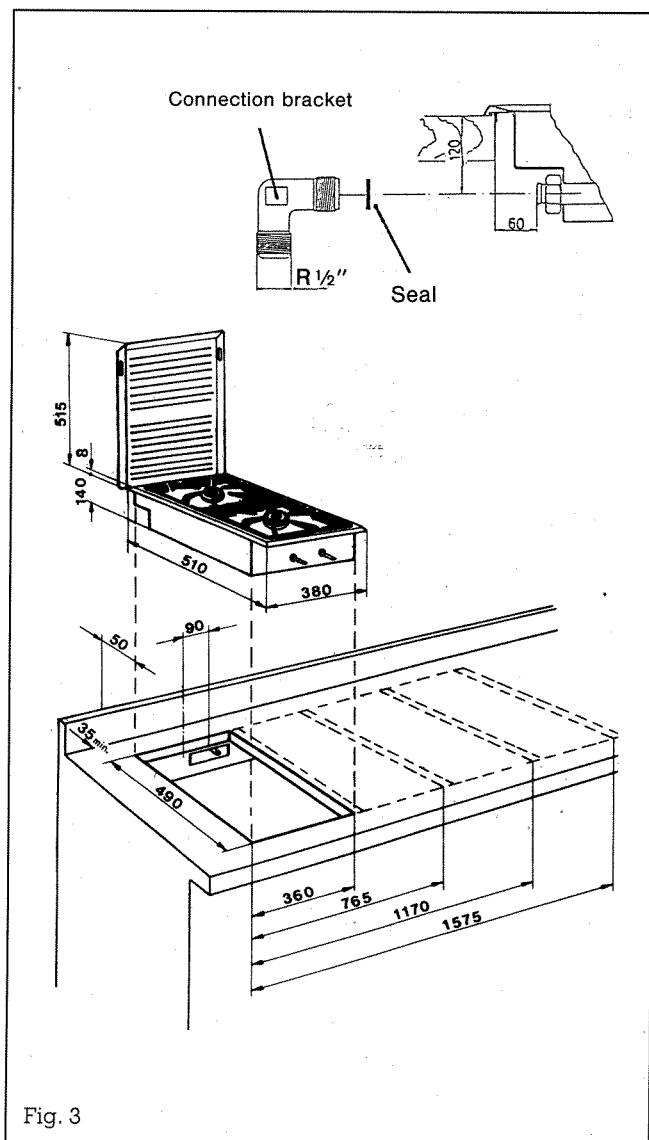

Fig. 3
The appliance must be connected with the included R 1/2" connecting bracket and the included seal (see Fig. 3) using a fixed connecting line or a type-tested gas safety hose conforming to DIN 3383 Part 1. As the temperature of the housing hob cannot exceed 70 K, a non-metal safety gas hose line with a minimum temperature resistance of 70 K can be used as the connecting line.
2. Produce the work surface recess as shown in Fig. 3. When installing an intermediate base, observe a distance of 150 mm from the top of the work surface to the intermediate base.